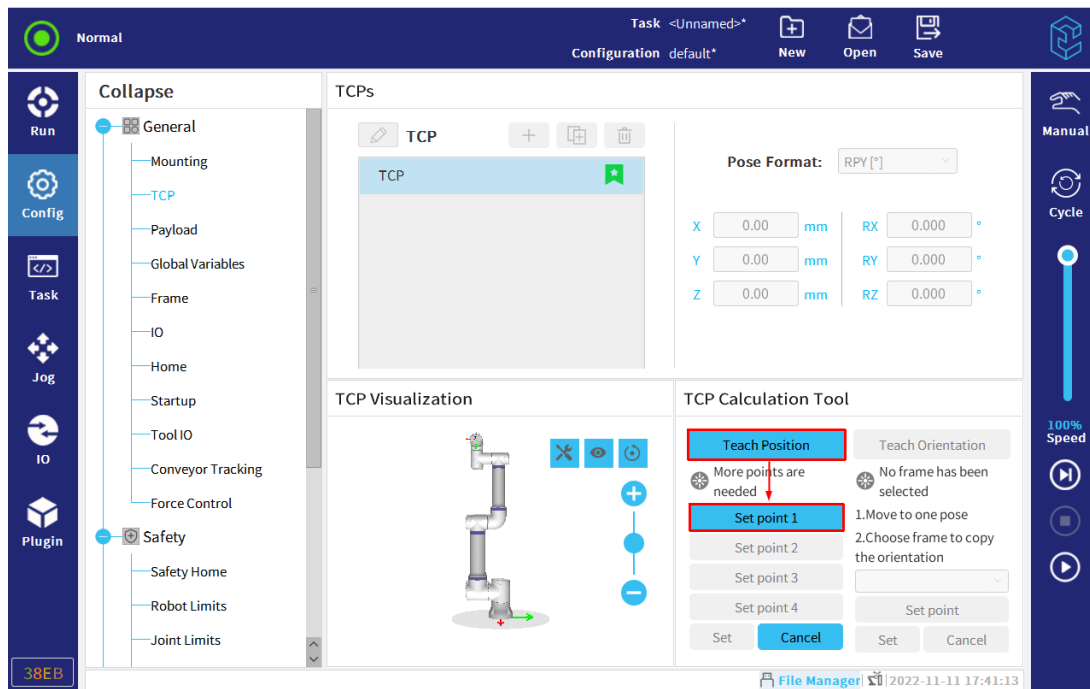

Figure 3-38 : Set point 1
1. Click "Teach Position > Set point 1", as shown in **Figure 3-38**.